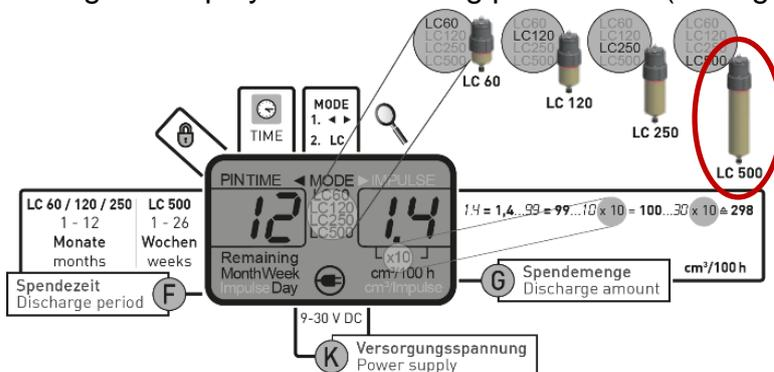

Figure 2: New display for TIME operating mode with four LC variables, discharge period [F], discharge amount [G] and power supply [K].
- Change of display and the setting parameters (see figure 2):